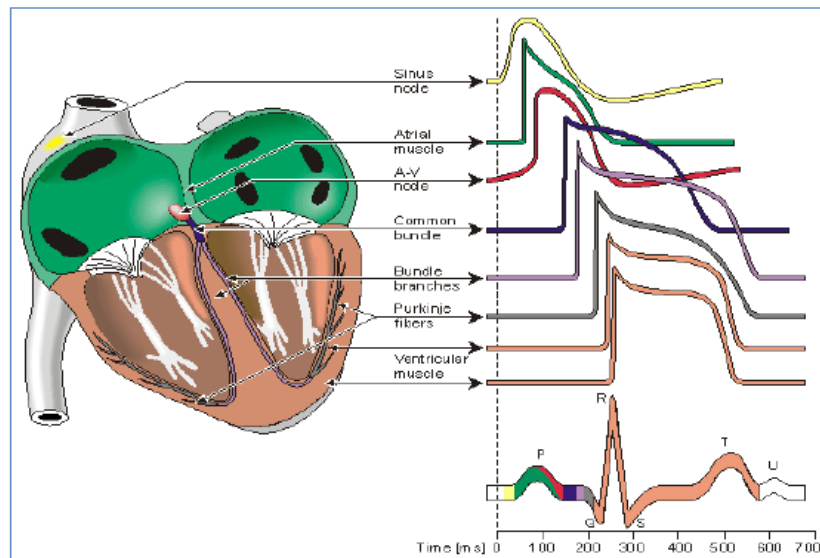

Figure 7.2: Superposition of all the action potentials produces the ECG signal [25]
Essentially, the action potentials from different nodes in the heart are what make up electrocardiograph (ECG) signals. ECG signals are comprised of the superposition of the different action potentials from the heart beating as shown in Figure 7.2. The action potential starts from a point called the pacemaker or sinoatrial (SA) node which is located near the top of the right atrium. The action wave form propagates in all directions along the surface of both atria. The waveform reaches the junction of the atria and the ventricles. The waveform terminates at a point on this junction which is called the atrioventricular (AV) node. The propagation of excitation is delayed at AV node so that the ventricles can be filled up with the blood from the atria. Once the
If the bio-potential is recorded from the surface of the body, the curve is obtained which is called ECG. A typical ECG is as shown in the figure 7.2. If prominent features of the curve are given alphabetic designations, we can explain the events related to the action potential propagation with the help of these features. The horizontal portion right of the point P is considered as the baseline or equal potential line. The wave P represents depolarization of the atrial myocardium. The depolarization of ventricles and the repolarization of the atria take place simultaneously, which is indicated by QRS part of the curve. The wave T represents the repolarization of the ventricles. The after potential in the ventricles is given by the U wave. The P–Q part of the curve shows the period of the delay caused to excitation wave at the AV node.